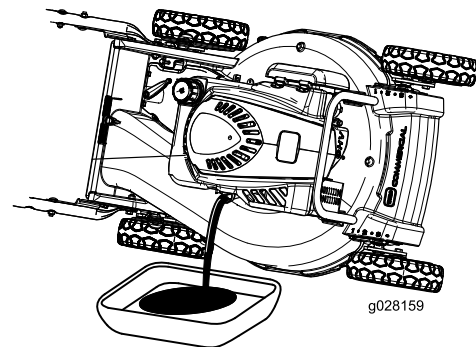

Figure 20
3. Tip the machine onto its side, with the dipstick down, to drain the used oil out through the oil-fill tube (Figure 20).